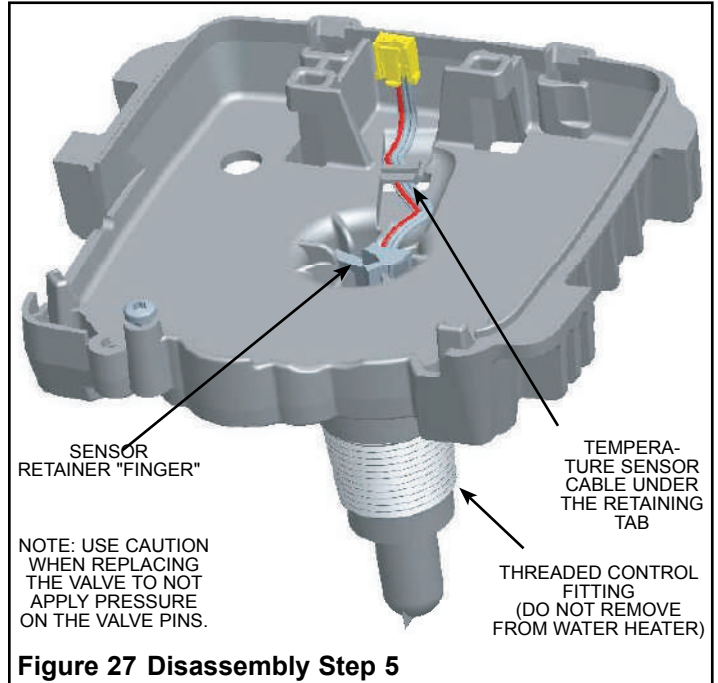

Figure 27 Disassembly Step 5
3. Use a screwdriver to pry under the sensor retainer finger to remove the temperature sensor and cable (see Figure 27).